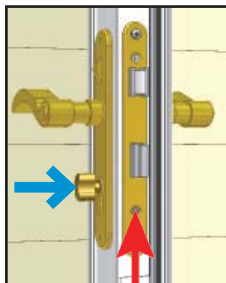

Figure 7
6. Insert dead bolt key cylinder into lock case and fasten with one #10 x 1 1/2" screw. (Figure 7)